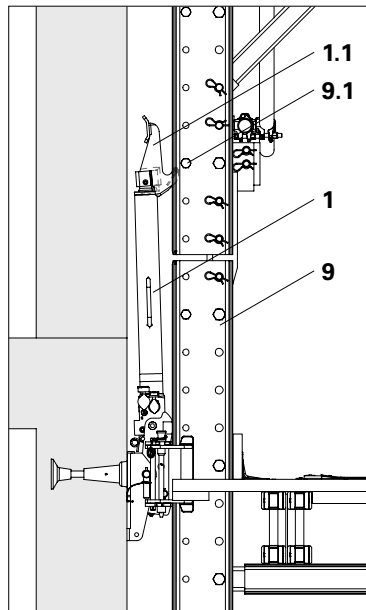

Fig. D7.05
2. Pull the climbing device to the climbing rail and position the claw (1.1) by hand between the profiles of the climbing rail. (Fig. D7.05)